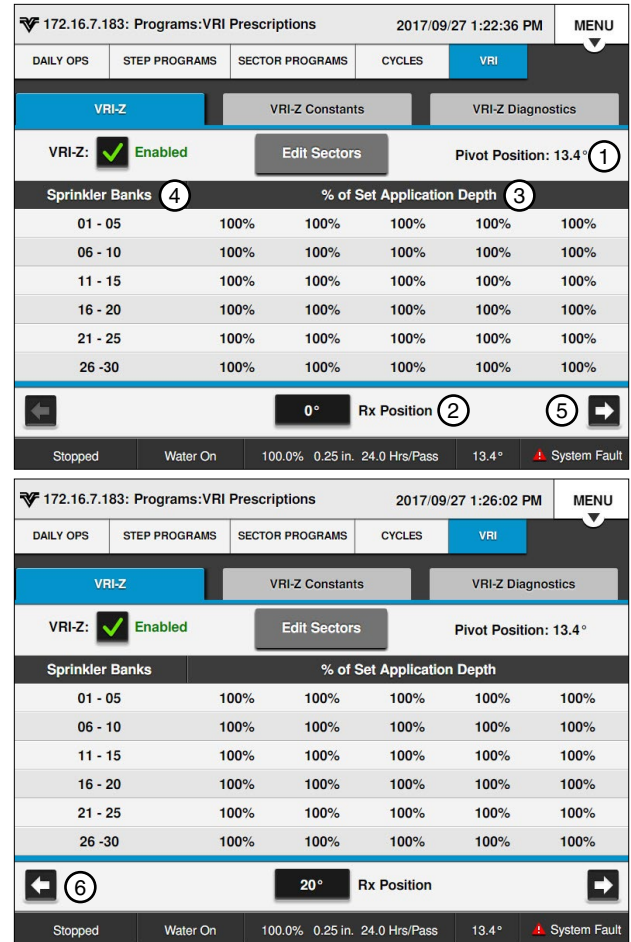

Figure 163-1 1. Pivot Position 4. Sprinkler Banks
To display the duty cycle for each sprinkler zone at a specific position on the map: Refer to Figure 163-1.
1. Push **Menu**, **Programs**, **VRI**, and **VRI-Z** to display the VRI-Z screen. Refer to Figure 163-1.